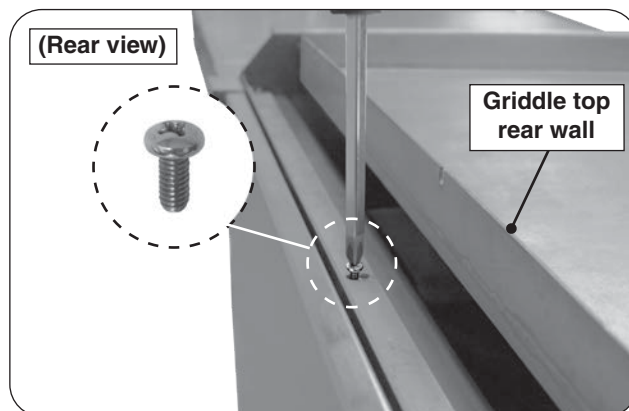

Fig. 18-2 Secure griddle top
2. Secure the griddle top by fastening the provided screw into the screw hole located on the rear of the griddle top (see Fig. 18-2).